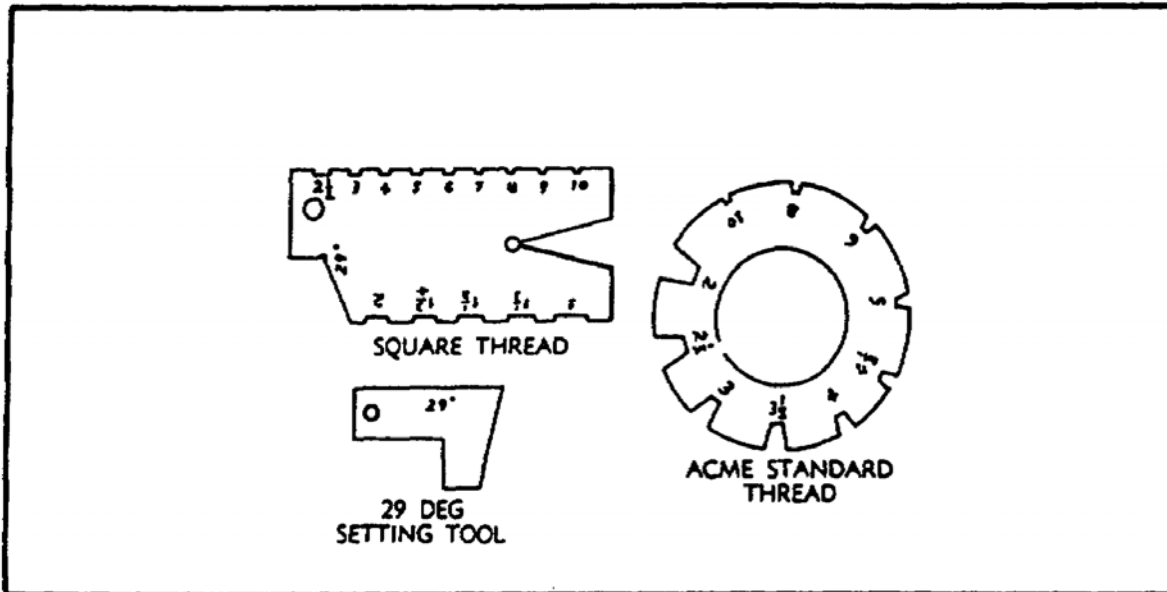

FIGURE 201. THREAD CUTTING TOOL GAGES.
f. *Types of Thread Cutting Tool Gages.* Thread cutting tool gages (figure 201) are hardened steel plates with cutouts around the perimeter. Each cutout is marked with a number that represents the number of threads per inch. A 29° angle, included with each gage, is used to set the thread cutting tool. One gage is used for Acme standard threads and the other for square cut threads.